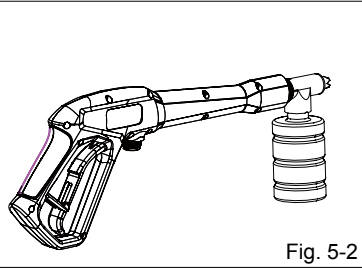

Fig. 5-2
- While pushing in the bottle firmly, turn clockwise until tabs lock into place to ensure a leak-free connection. (See Figure 5-2.)